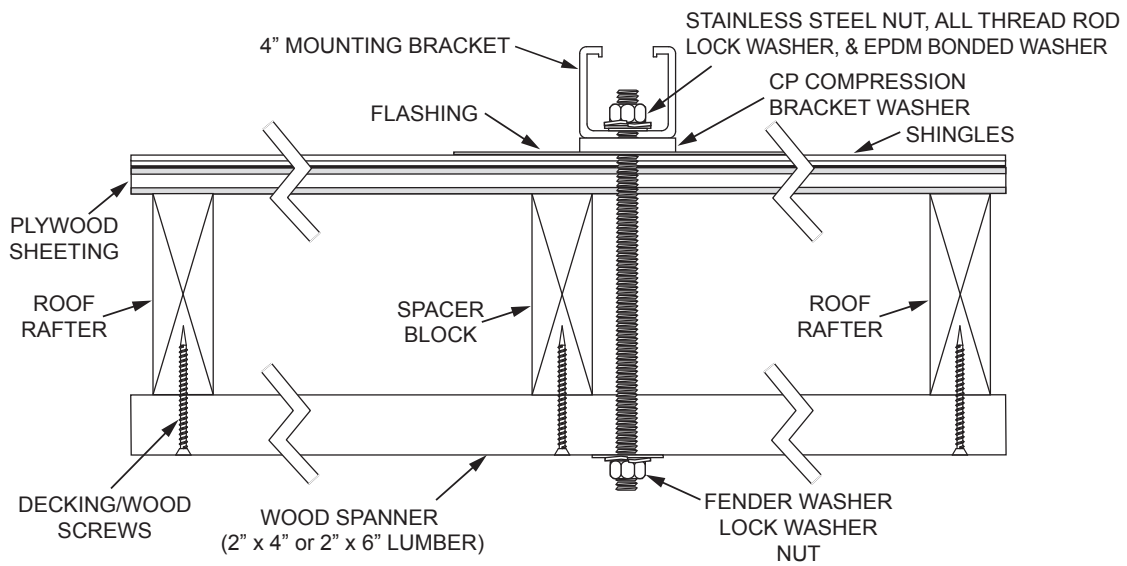

Figure 4.
3. The compression bracket washer is positioned over the flashing seal with the concave side towards the seal. See Figure 4.
6. Fabricate spanners, one for each mounting bracket, using a 2" x 4" or similar lumber. Spanners must be long enough to span at least two rafters. In the attic or crawl space drill a 5/16" hole through each spanner and insert the all-thread through it. Secure each spanner to the rafters with decking or wood screws. See Figure 4.
7. Fabricate spacer blocks, one for each mounting bracket, using a 2" x 4" or similar lumber the same width of the rafter next to each all-thread. Place spacer blocks next to the all-thread between the spanner and roof. Secure each spacer block to the spanners with decking or wood screws. Spacer blocks are necessary to avoid deformation of the roof. See Figure 4.